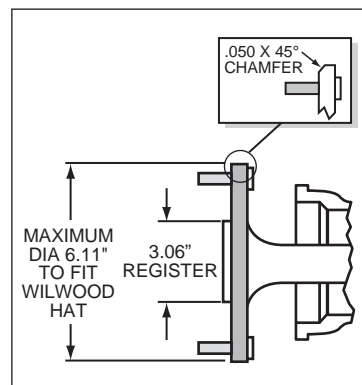

Figure 5. Axle Flange Maximum Dimension
- Maximum axle flange diameter must be no larger than 6.11" w/.050" x 45° chamfer (Figure 5).